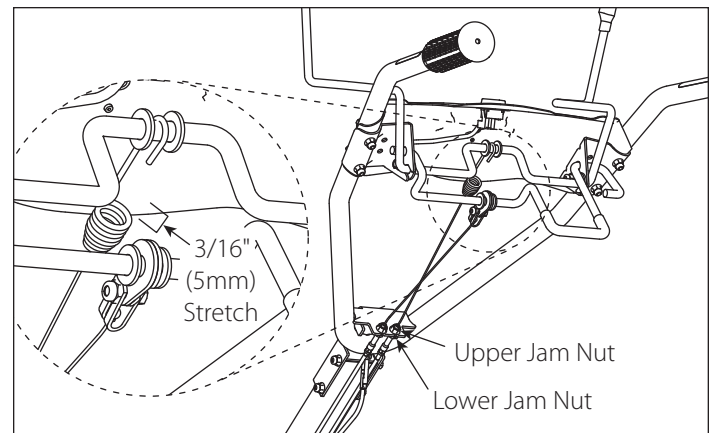

Figure 5
1. Loosen upper jam nut at handlebar assembly. SEE FIGURE 5